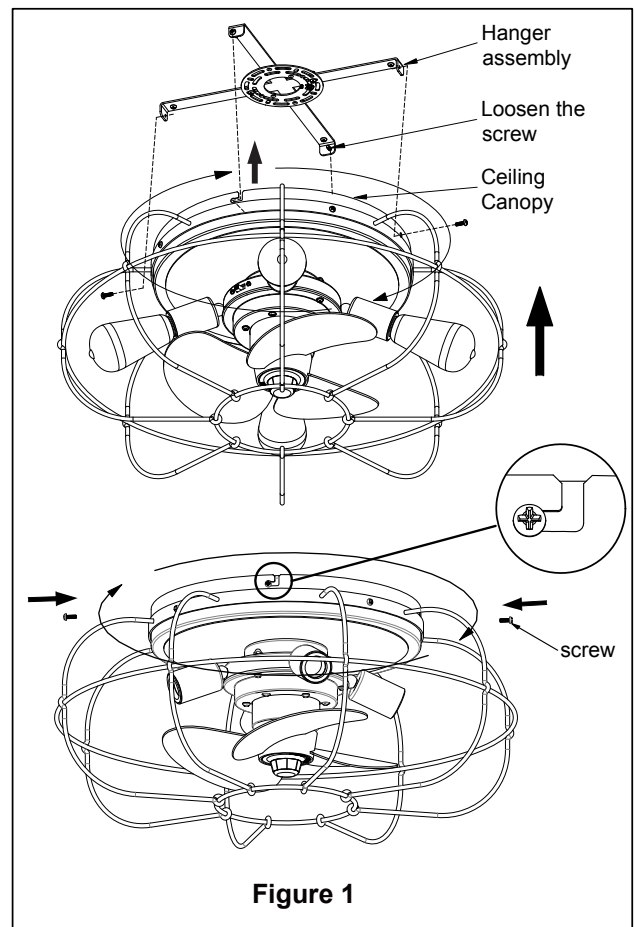

Figure 1
1. Assemble the canopy by rotating it to align the "L-shaped" holes from the canopy over the two (2) screws on the hanger bracket, taking care not to pinch the wires. Tighten the two (2) screws. Fully assemble and tighten the remaining two (2) screws previously removed, into the round holes on each side of the canopy (Figure 1)
1. Install light bulbs into sockets by threading in a clockwise direction. (Figure 1)